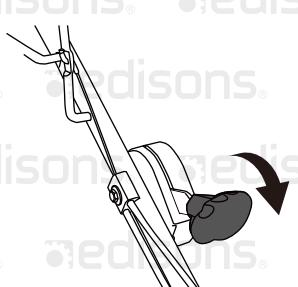

Fig. 13
1. Move the throttle lever (4) downward for starting (Fig. 13).